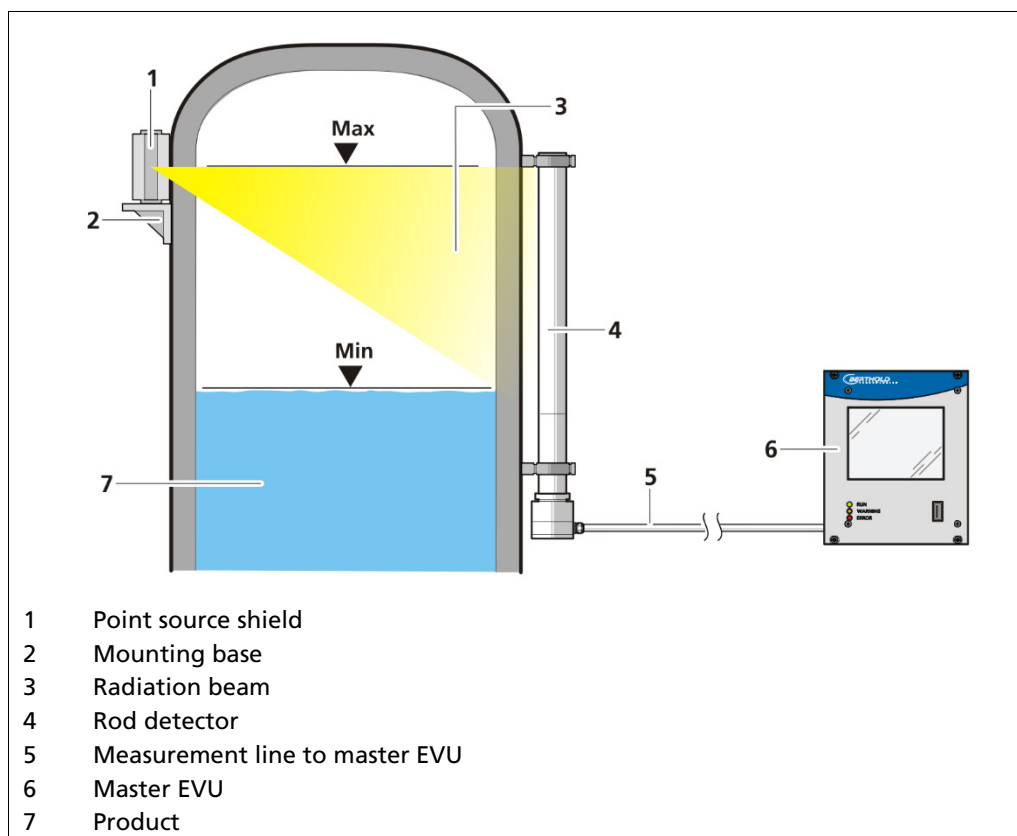

Fig. 1 Example measurement arrangement
These instructions concern the operation of the evaluation unit DuoXpert LB 470RID (Fig. 1, item 6). The operation of other system components is part of the independent instructions of the respective system components. The EVUs are standard equipment in switch rooms with 19" subracks or switchboards.